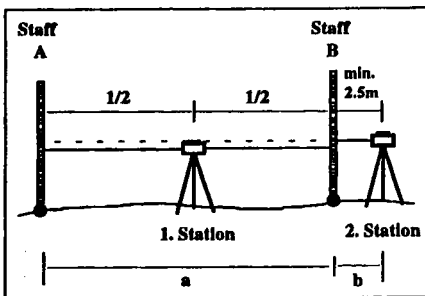

Fig. 7-4
**Procedure "A x Bx" (fig. 7-4)**